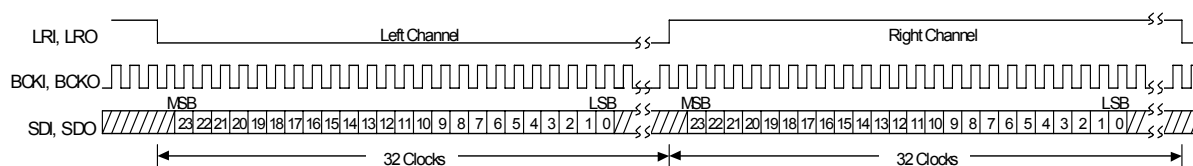
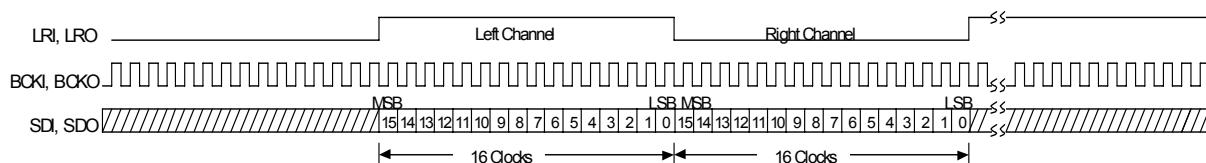

Fig.6-1 I²S Data Format 64fs, 24bit Data
Fig.6-12 Right-Justified Data Format 32fs, 16bit Data
The NJU26125 can use three kinds of formats hereafter as industry-standard digital audio data format; (1) I²S (2) Left-Justified (3) Right-justified and 16 / 18 / 20 / 24bits data length. (Fig.6-1 to Fig6-12)